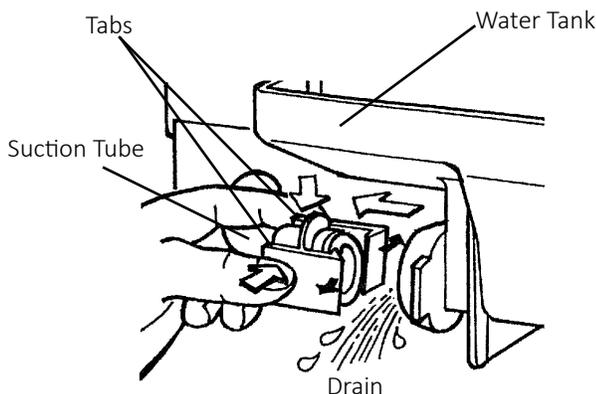

Fig. 26
3. Inside the storage bin, disconnect the suction tube by squeezing the tabs and pulling the tube clear. See Fig. 26. Allow the water tank to drain.